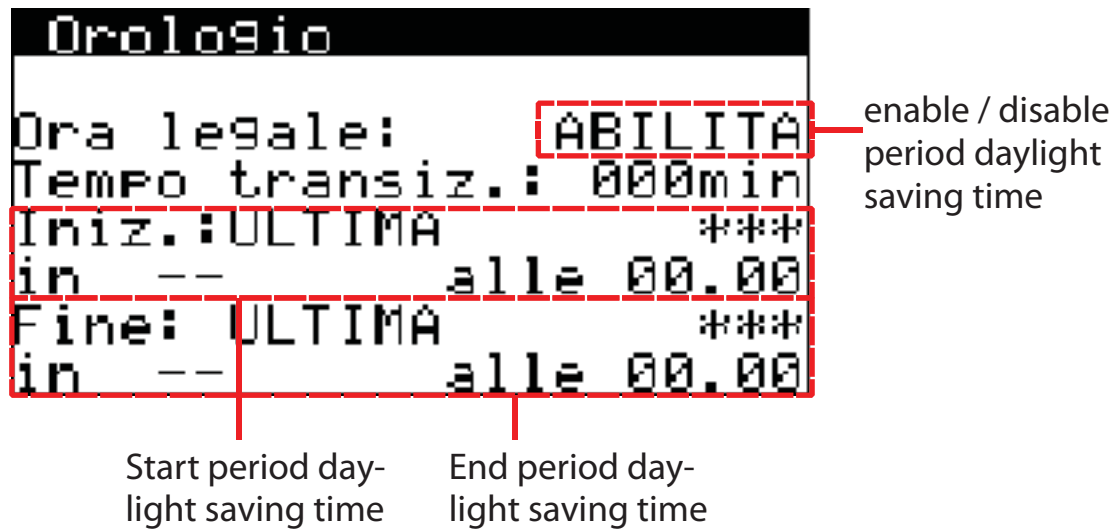

Fig. 13
6. screen of setting of the daylight saving time (Fig. 13)
3. From the screen of setting of daylight saving time (Fig. 13) Press the Enter key  to enable the changes